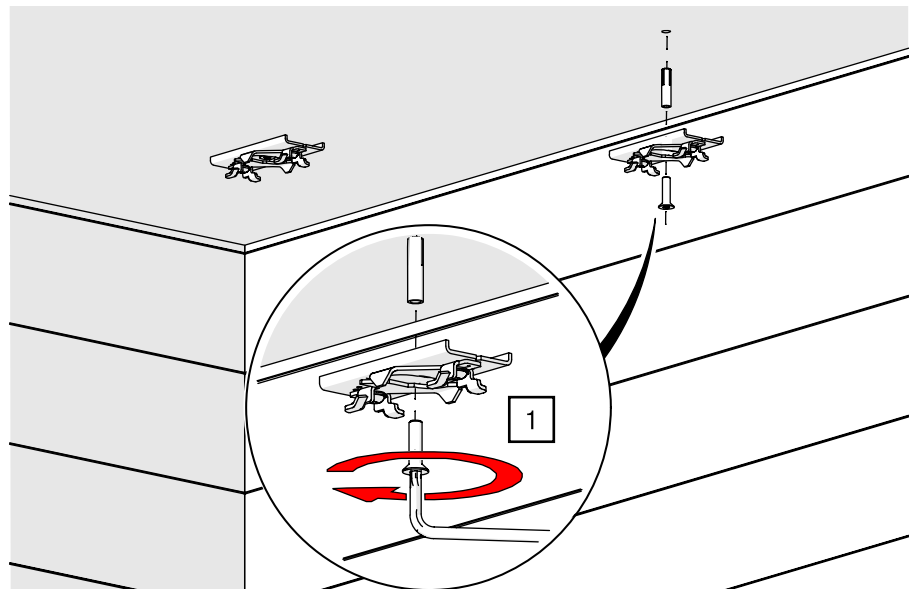

Fig. 53: Ceiling installation – Screwing the G-TWIST II into the ceiling
1. Screw the G-TWIST II central mounting to the ceiling using the appropriate mounting material for the surface (assembly according to the manufacturer's instructions; example concrete ceiling – see Fig. 53).